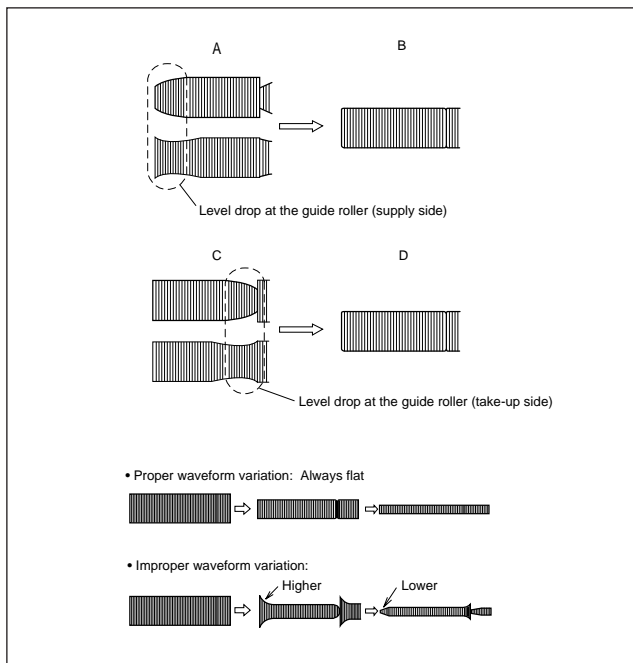
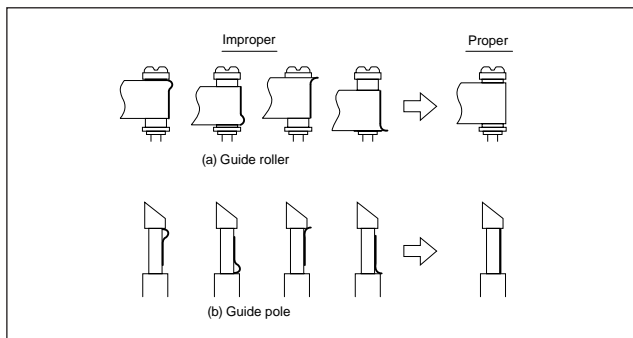

Fig. 2-3-1c
Fig. 2-3-1d
- (5) Reduce the V.PB FM waveform by the tracking operation. If a drop in level is found on the left side, turn the guide roller of the pole base assembly (supply side) with the roller driver to make the V.PB FM waveform linear. If a drop in level is on the right side, likewise turn the guide roller of the pole base assembly (take-up side) with the roller driver to make it linear. (See Fig. 2-3-1c.)
- (6) Make sure that the V.PB FM waveform varies in parallel and linearly with the tracking operation again. When required, perform fine-adjustment of the guide roller of the
- (7) Unload the cassette tape once, play back the alignment tape (A1) again and confirm the V.PB FM waveform.
- (8) After adjustment, confirm that the tape wrinkling does not occur at the roller upper or lower limits. (See Fig. 2-3-1d.)
**[Perform adjustment step (9) only for the models equipped with SP mode and EP (or LP) mode.]**
- (9) Repeat steps (1) to (8) by using the alignment tape (A2).